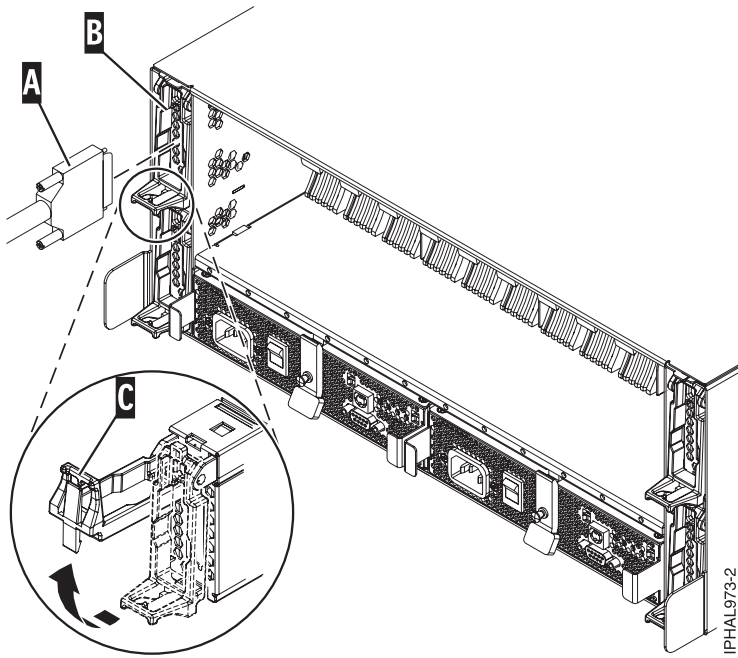

Figure 17. SCSI cable to a single repeater card
- If you are using only single repeater cards or only dual repeater cards, connect your SCSI cable (A) to the initiator repeater card (B). For more details, see Figure 17 on page 58, Figure 18 on page 58, or Figure 19 on page 59, depending on your situation.